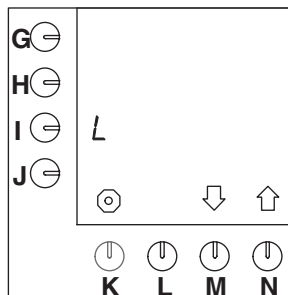

Fig. 22 The default set unit = L (litres)
- This is the default setting (fig.22 ).